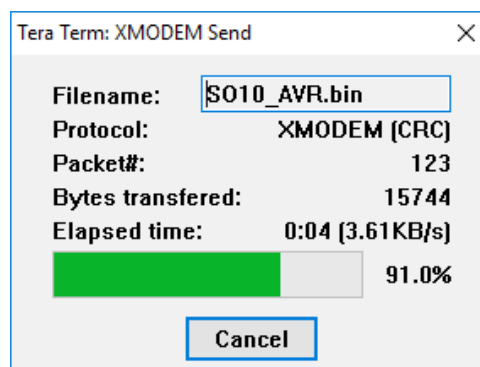

Figure 7.8: Terminal - upload new firmware
11. During update procedure both Crystal LED are blinking rapidly, the application displays information about the progress of the file is sent(figure 7.8).